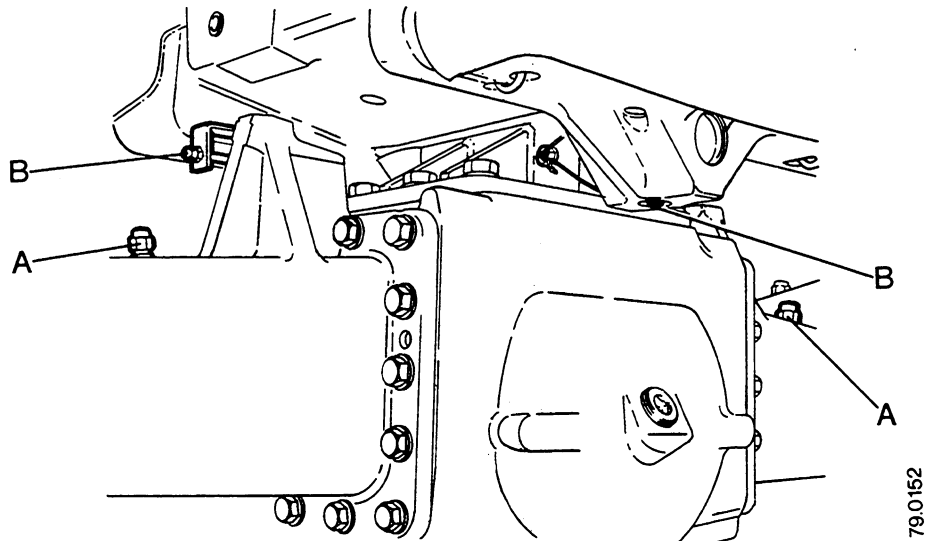

FIGURE 6. BREATHERS AND TRUNNION PIN FITTINGS
4. Use SAE 90EP gear oil for the two fittings on the axle trunnion pin, see B, Figure 6.
There are two breathers, one on each side of the axle case, see A, Figure 6.